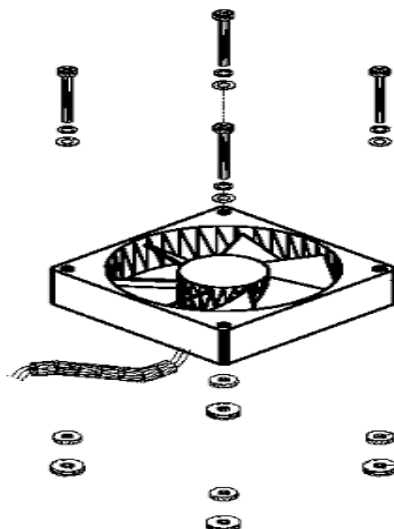

Figure 8-51 Fan Part Details
- 3) Mount each fan with four Isodamp Grommets and Insulation Sleeves underneath the top of the crate, as shown in Figure 8-51 "Fan Part Details" on page 8-53.